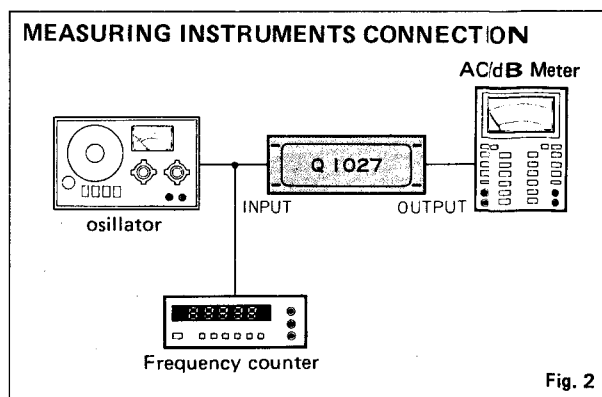

Fig. 2
- Connect measurement instruments as shown in Fig. 2.